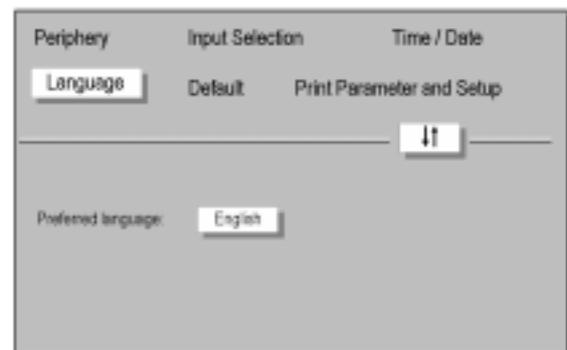

Figure 1-3
Two vertical arrows -↕- on the dividing line (B), such as in Figure 1-3, indicate that an entry or a selection can be made as follows:
- > Use the **←→** keys to highlight your choice in the menu bar (A) and press **OK**.
- > Use the vertical arrows **↕** to move to the (C) area of the screen.